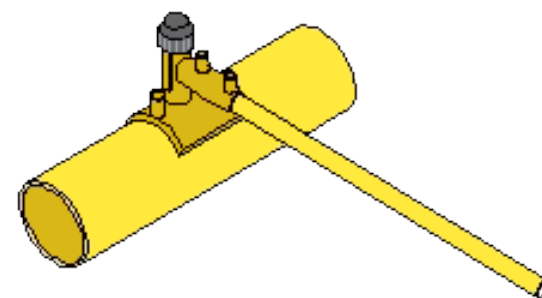
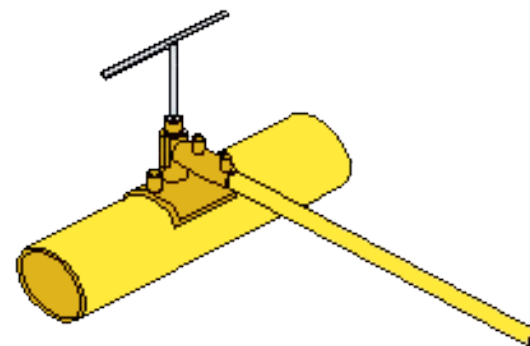

Figure 30 - PE service
Figure 31 - Top tee plug screwed down
2. Remove cap from the tapping tee and wind the cutter to the down position. (Figure 30 & Figure 31).